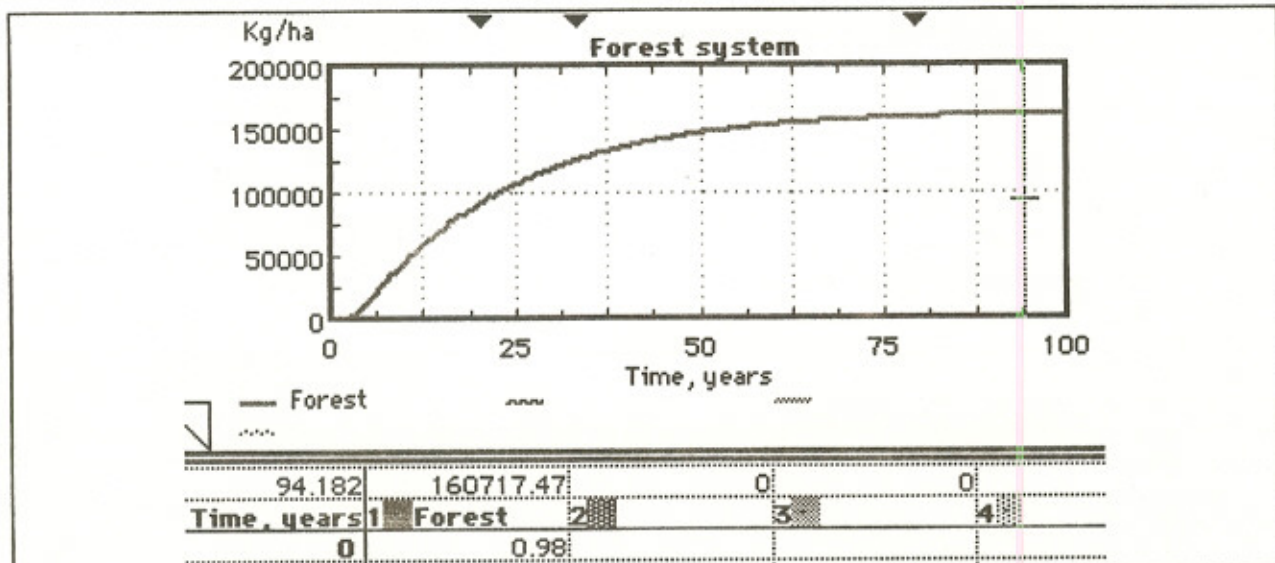

Figure 33. Simulation graph of forest growth, with sunlight of 3000 kilocalories/m2/day.
6. Run the simulation. Your graph should match the one in Figure 33.
4. Go to Figure 33 or your records to read the steady state forest biomass from the graph to put in the Forest dialog box.